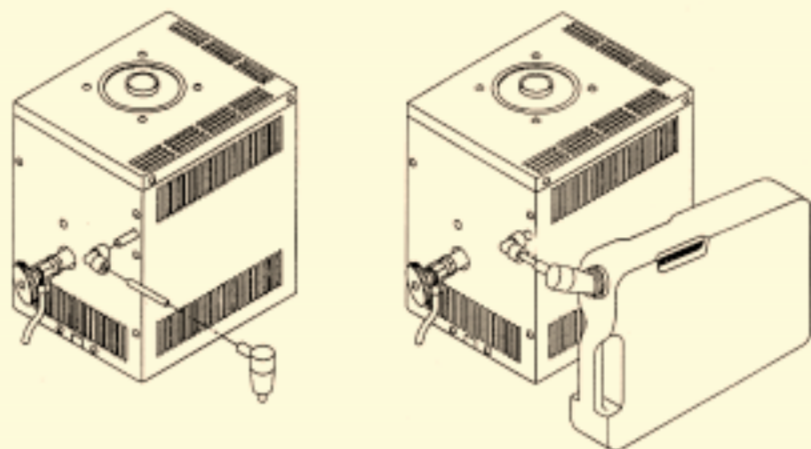

Figure 2
4. Position the post-filter loosely into the mouth of the plastic container so it enters at an angle as shown in Figure 2. The unit is now ready for normal operation. Allow a small air gap around the lid of the plastic container for improved flow. **CAUTION:** Do not use the post-filter as a cork for the plastic container.
5. To remove the filter, the adjustable collet (A) must be loosened and the grey collet (B) must be depressed before pulling the fitting off of the condenser outlet.